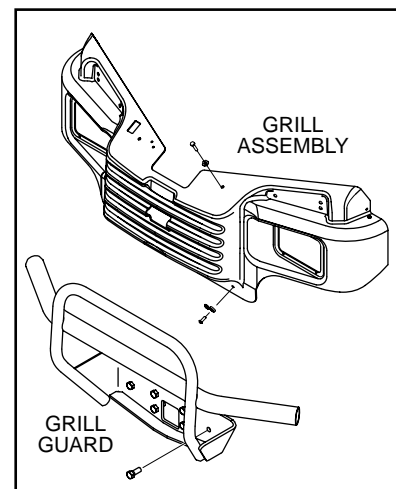

Figure 9
The grill assembly (Figure 9) is mounted between the grill guard and support frame. The headlights are mounted in the grill.
2. Remove two capscrews, lock washers, flat washers and nuts from the top of the grill assembly (Figure 9).